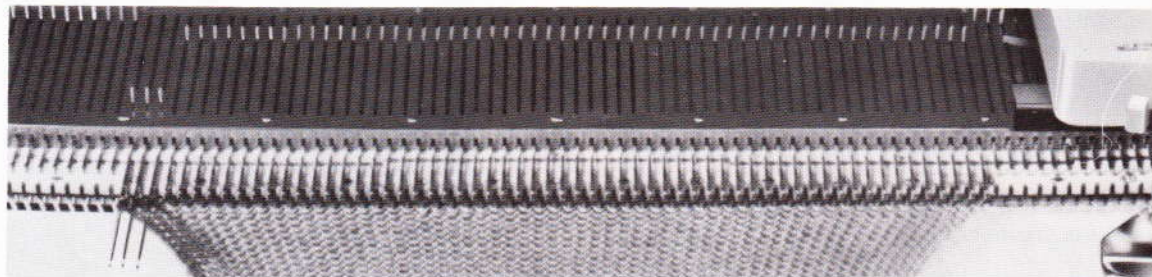

Fig. 197
2. Push the 3 end needles at the left to F position (fig. 197). Knit 1 row.